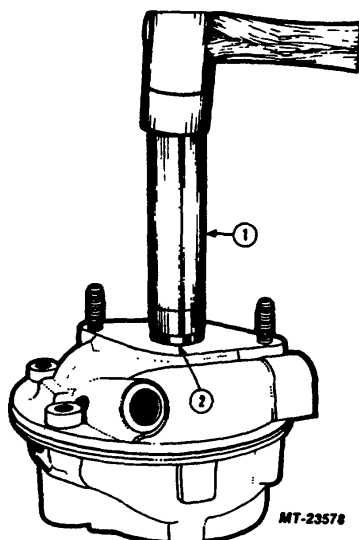

Fig. 23 Installing Shaft Seal
- 2. Install seal using Seal Installer SE-2840, Figure 23. Seal should be bottomed in seal bore but be careful not to crush seal cage.